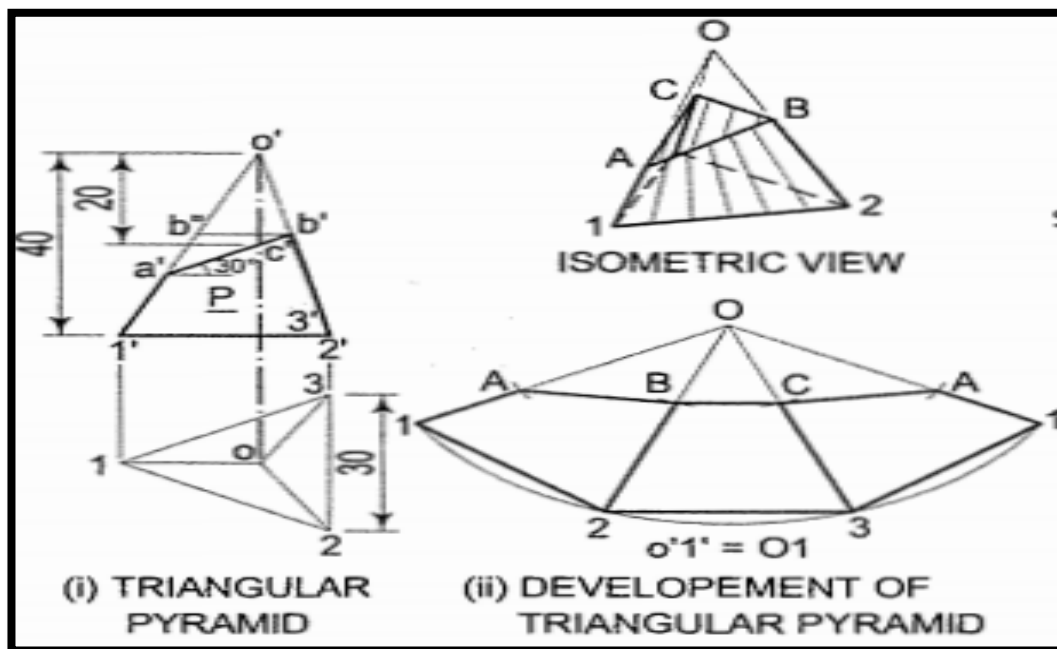

Figure:1
9. The figure 1-A-A-1 is the required development.